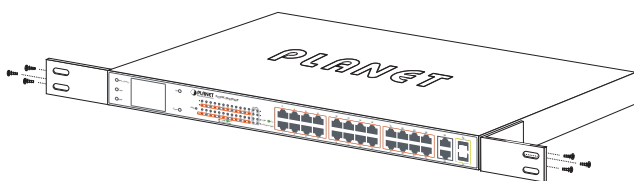

Figure 3-2: Attaching the Brackets to the 802.3at PoE+ Switch.
- Step 2:** Attach a rack-mount bracket to each side of the 802.3at PoE+ Switch with supplied screws attached to the package. Figure 3-2 shows how to attach brackets to one side of the 802.3at PoE+ Switch.